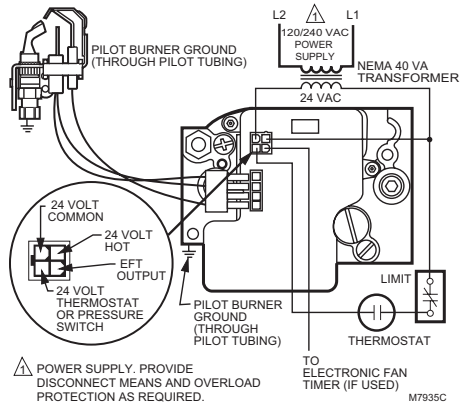

Fig. 8. SV9501/SV9502/SV9602/SV9601 basic wiring diagram.
3. Connect the control circuit to the ignition system control, as shown in Fig. 8 through 11.